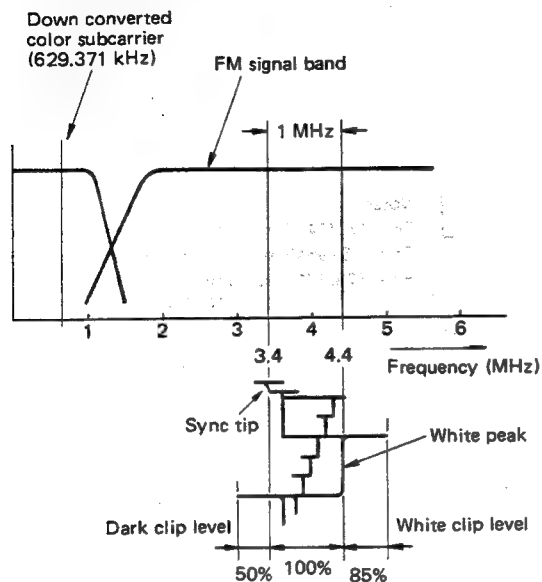

Fig. 1-6 Recording spectrum
1.3.3 White and dark clip level (See Fig. 1-6.)
1.3.4 FM carrier frequency and deviation (See Fig. 1-6.)
As indicated in Fig. 1-6, when the video input is a color TV signal, it goes through an HPF for vacating the area for the down converted color signal. With some VHS models, when the input is a B/W TV signal, the HPF can be bypassed to extend the bandwidth to the DC area.